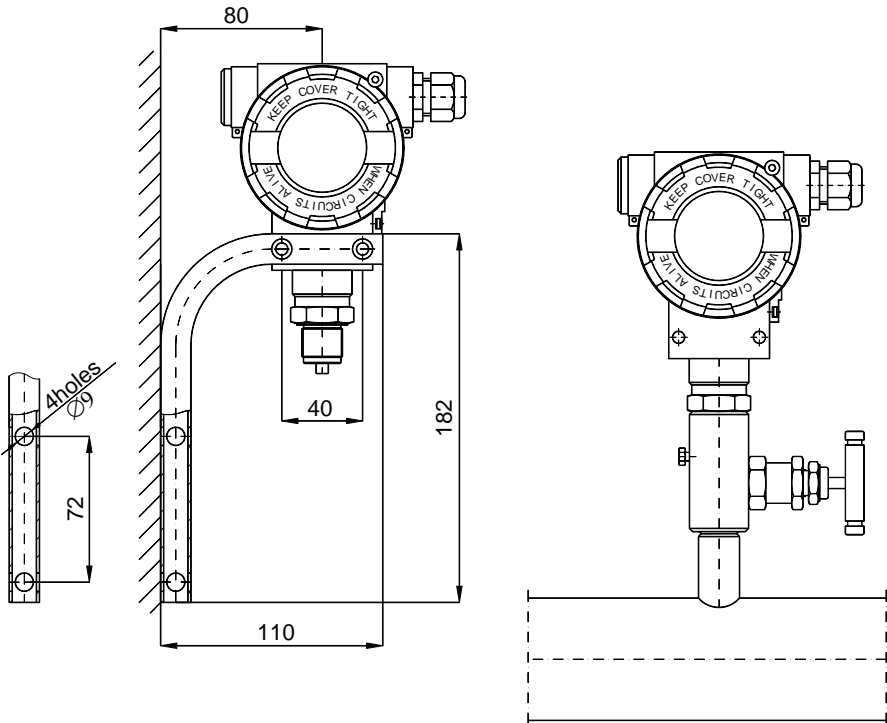

Fig.6. Mounting methods of APC-2000ALW (Ex) Safety transmitter
7.1.3. Transmitter **APC-2000ALW (Ex) Safety** can be installed using universal "AL holder" allowing installation, in any position, on supporting structure or vertical or horizontal tube  $\varnothing 35 \dots \varnothing 65$  (Fig.6).